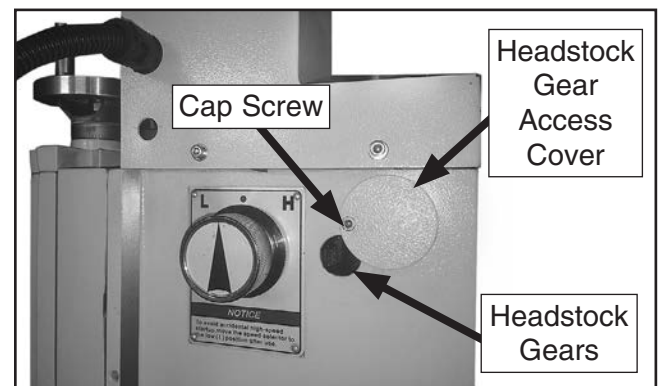

Figure 136. Headstock access cover and cap screw location.
1. Remove cap screw and headstock gear access cover, as shown in **Figure 136**.